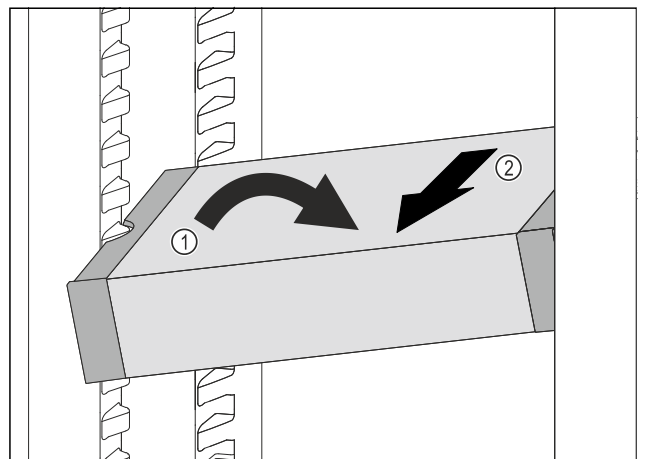

Fig. 114
- ▶ Set VarioSafe in refrigerator compartment at an angle. Fig. 114 (1)
- ▶ Take VarioSafe out to the front. Fig. 114 (2)